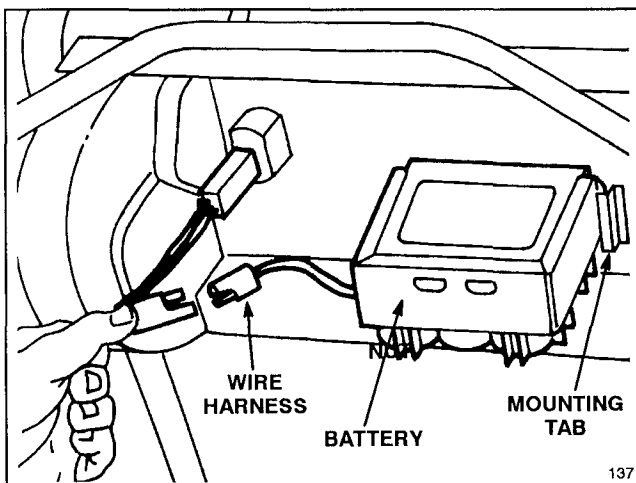

Figure 28
1. Stop engine and disconnect wire harness from battery terminal (Fig. 28).